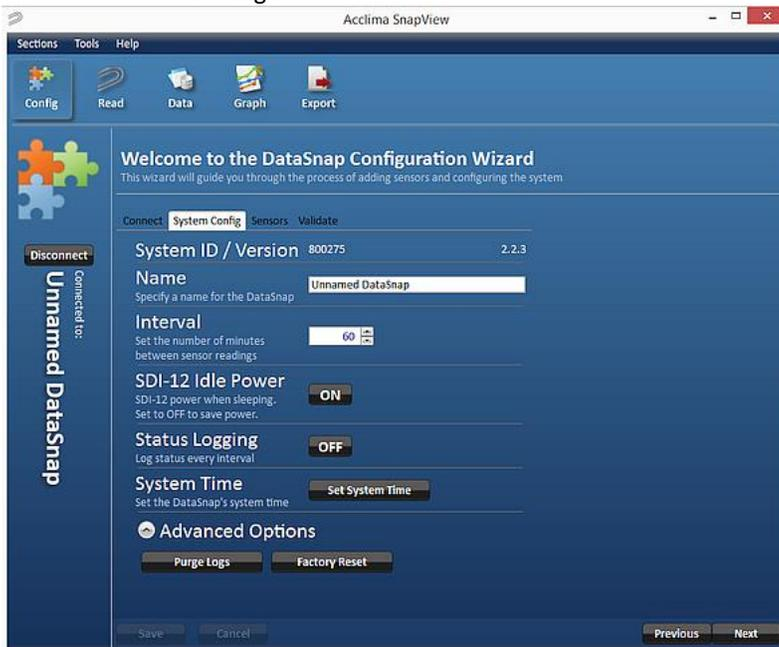

Figure 9 - System Configuration
- **Interval** - This is the number of minutes between automatic sensor readings. Figure 9 shows an unnamed DataSnap that is configured to take a new set of readings every 20 minutes. This interval is measured from the beginning of the previous cycle to the beginning of the subsequent cycle. For example, if the first automatic reading cycle begins at 10am and takes one minute to complete. The second automatic reading cycle will begin at 10:20am.